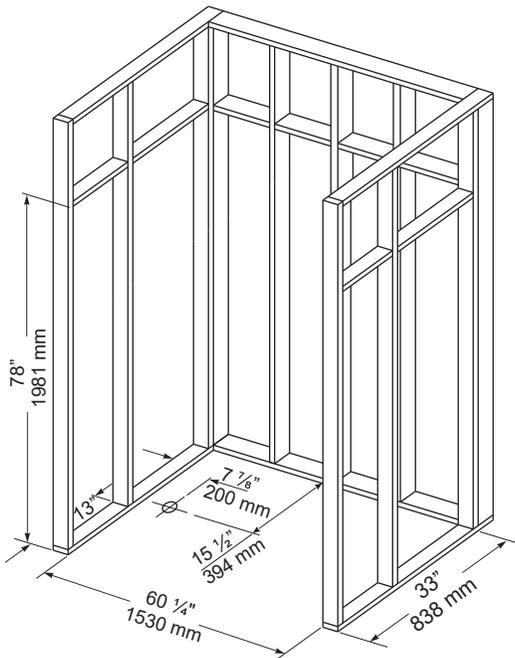

FIGURE 1 - LAYOUT DIMENSIONS
The Tub Shower is to fit into framed alcove as shown in Figure 1 and Figure 2.
- Framing: Inside dimension of the studded alcove are to be as specified in Figure 1.
- Build solid framing to the dimensions in Figure 1.
- The drain location on the tub shower is shown in figure 1.